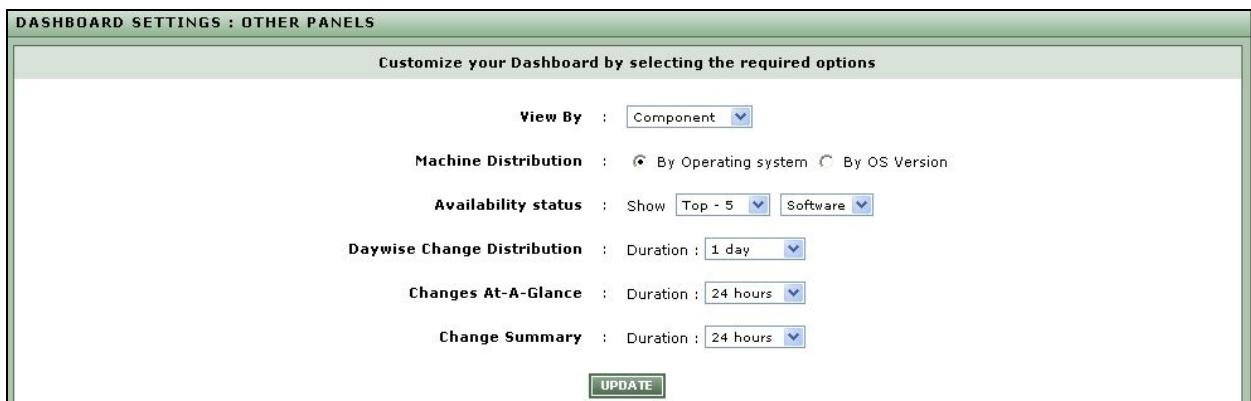

Figure 7.1: Customizing the dashboard
1. By default, the dashboard provides you with an overview of the software, service, hotfix, and operating system configuration of the managed components in the target environment, and also provides a quick summary of the configuration changes that were effected on these components in the recent past. Owing to this component-focus, the **Component** option is chosen by default from the **View By** list in the dashboard as depicted in Figure 7.1. You can override this default behavior by selecting a different **View By** option from this page.
8. Finally, click the **UPDATE** button to implement the changes (see Figure 7.1).